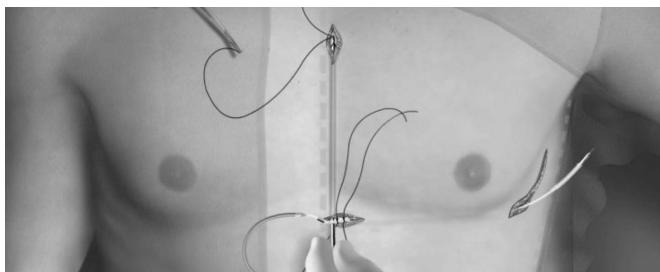

Figure 14: Tunneling to Superior Incision
7. Insert the distal tip of the EIT into the xiphoid incision and tunnel subcutaneously towards the superior incision, staying as close to the deep fascia as possible (*Figure 14*).